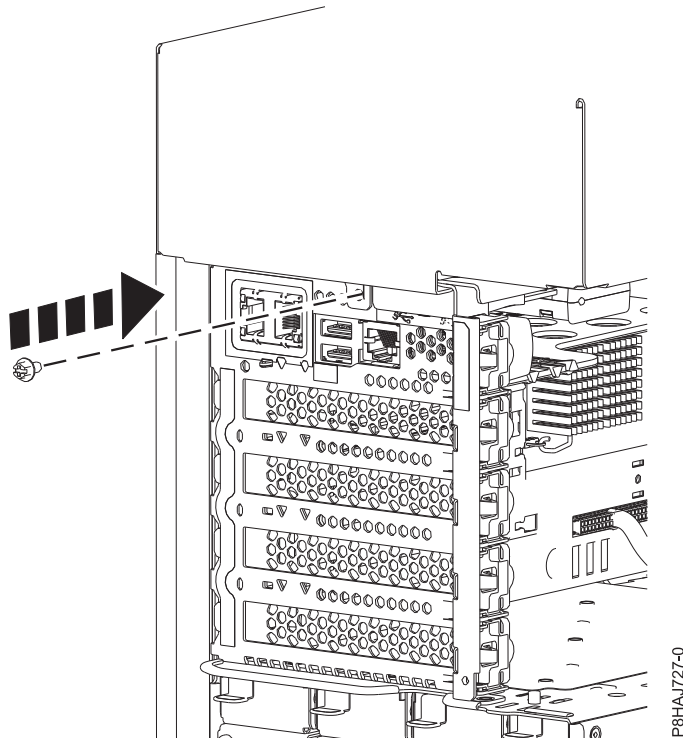

Figure 22. Installing the 8286-41A side cover screw
5. Install the side cover rear screw with a Phillips screwdriver as shown in Figure 22 on page 38.